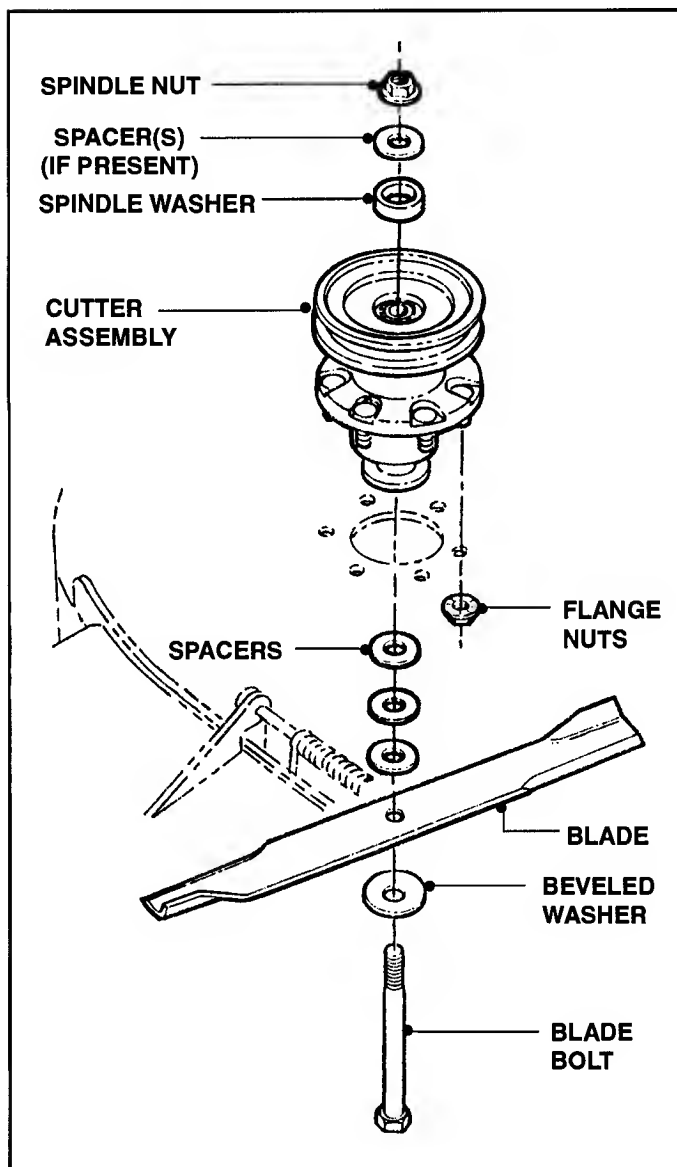

FIGURE 4.3
- D. Remove Spindle Nut, any Spacers and Spindle Washer from top of Spindle. See Figure 4.3.
- E. Remove Blade Bolt, Beveled Washer, Blade and any Blade Spacers. Refer to Figure 4.3.
- F. Remove the six (6) 3/8 - 16 Hex Flange Lock Nuts securing the Cutter Housing to the Deck and remove Cutter Assembly.